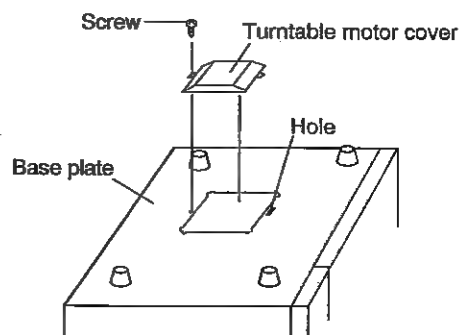

Figure C-4(b). Turntable Motor Cover Re-install
6. Re-install the turntable motor cover to the base plate with the screw which are removed at the above step 2 as shown in Figure C-4(b).